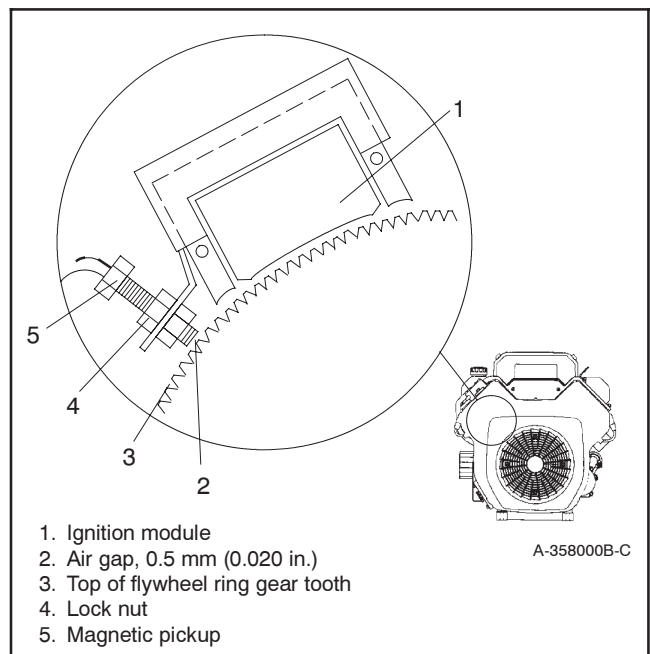

Figure 6-23 Magnetic Pickup Air Gap
5. If the voltmeter displays less than 1.75 volts AC, check the air gap as described in the following steps before replacing the sensor. Verify that the magnetic pickup air gap is 0.5 mm (0.020 in.). Measure the air gap at 3 or 4 places to get an accurate reading. See Figure 6-23.
- d. Adjust the air gap, if necessary, by loosening the locknut and turning the pickup. See Figure 6-23.